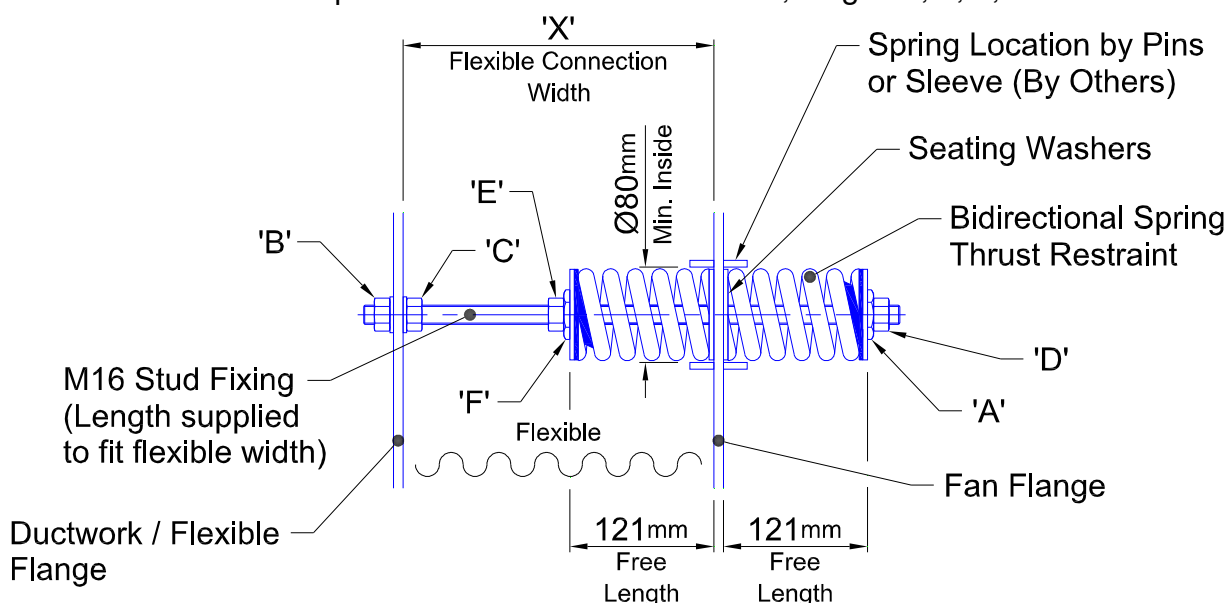

Figure 4
- 9) Once the adjoining flanges have been aligned, the stud can be passed through the opposing location holes and the springs positioned either side of the fan flange as shown in Figure 4.
- 10) Nuts A, B & F should then be adjusted to suit the flexible connection width 'X' and ensure the thrust springs are correctly located on the fan flange (see Figure 4).